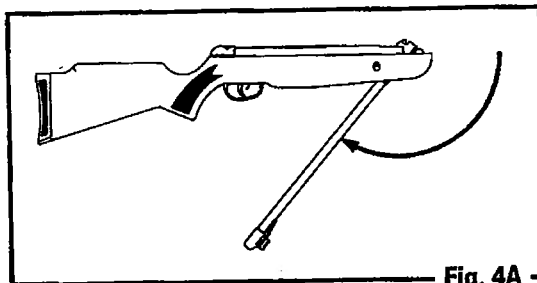

Fig. 4A
- Pull the barrel downward until it stops (Fig. 4A). Do not pull past this point and do not use excessive force or speed when cocking your airgun.